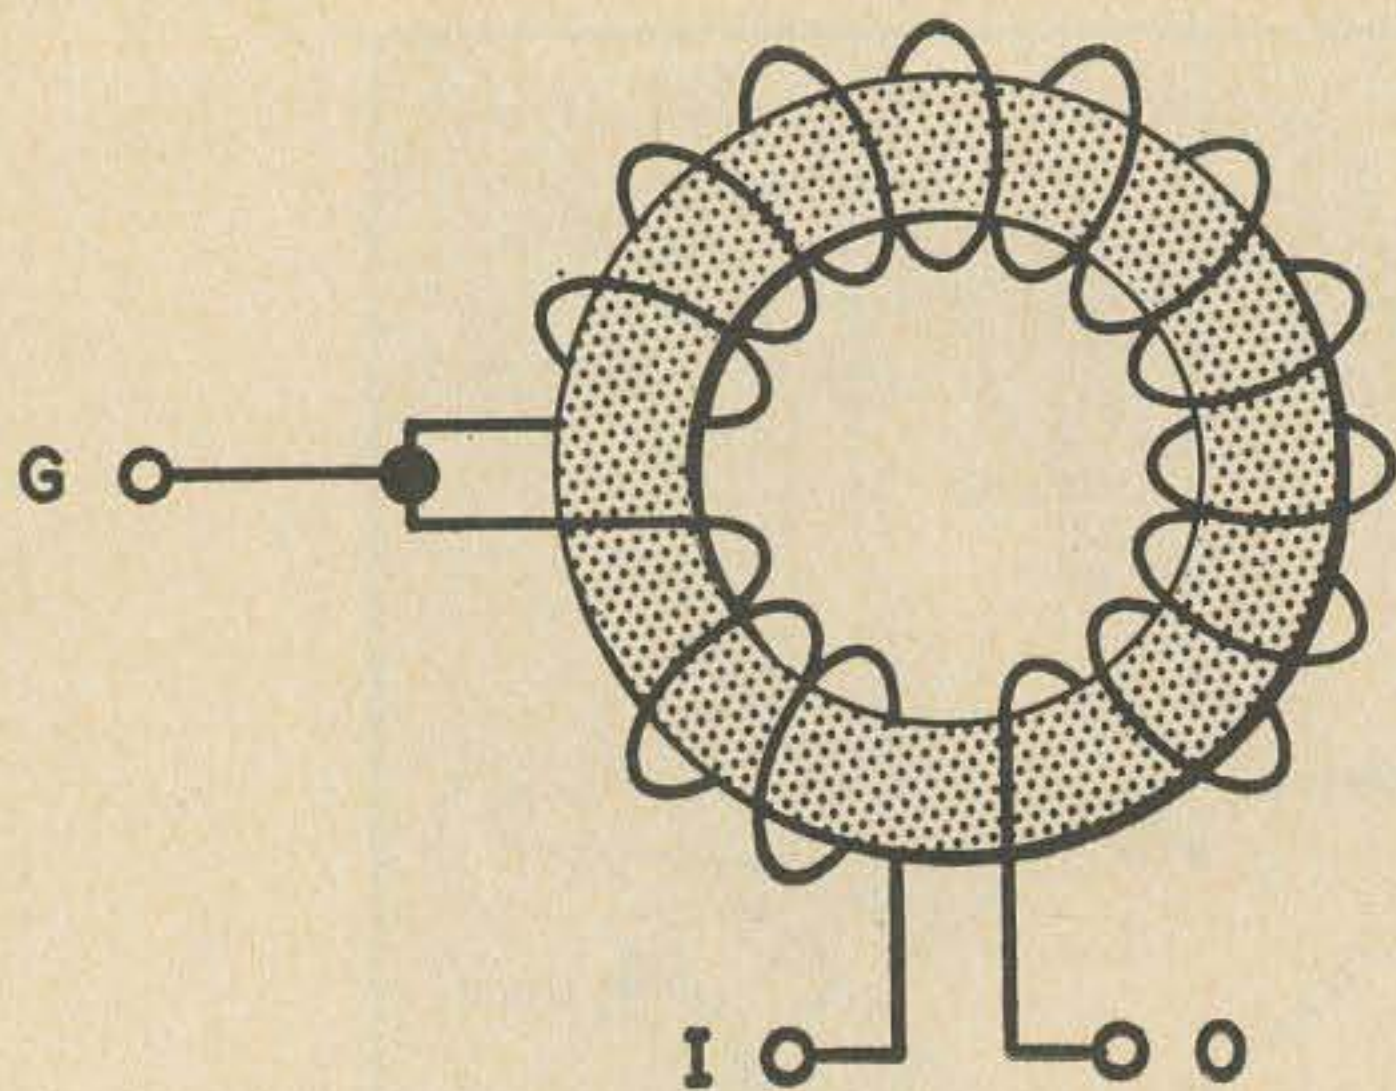

Fig. 4. Detail of the toroid.
The tuned circuit inductors are wound on toroid cores which were also obtained from Ami-Tron. A convenient method for tapping the coils is shown in Fig. 4. Starting with the input (I) lead, add turns until the tapped turn is reached. Form the wire into a U on the outside of the toroid and twist the sides of the U together. Scrape away the enamel at the bottom of the U (but do not break the wire) and solder on the ground (G) lead. Continue winding until the required number of turns is in place. The turns should be spaced around the full circumference of the toroid.